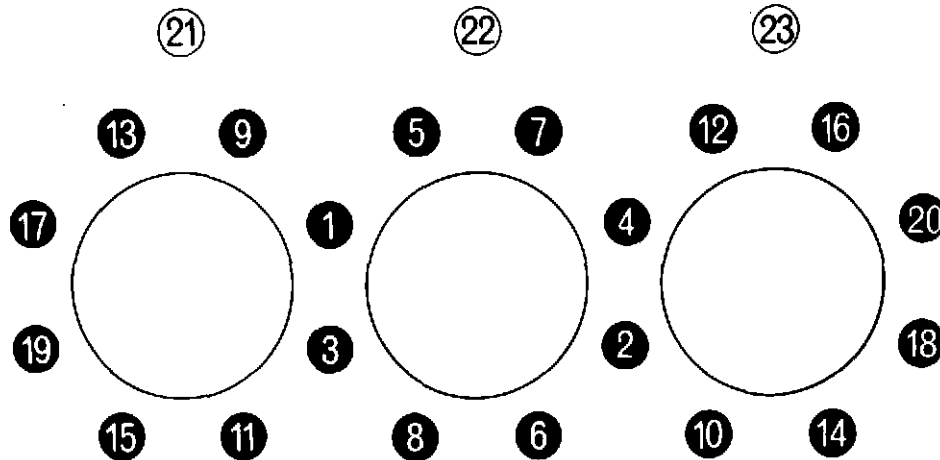

Fig. 18 Tightening sequence
- 43 Tighten the nuts and setbolts, in steps of 50 Nm. (37 lbf.ft.), following the sequence shown in figure 18, until a torque loading of 200 Nm (148 lbf.ft.) is achieved.